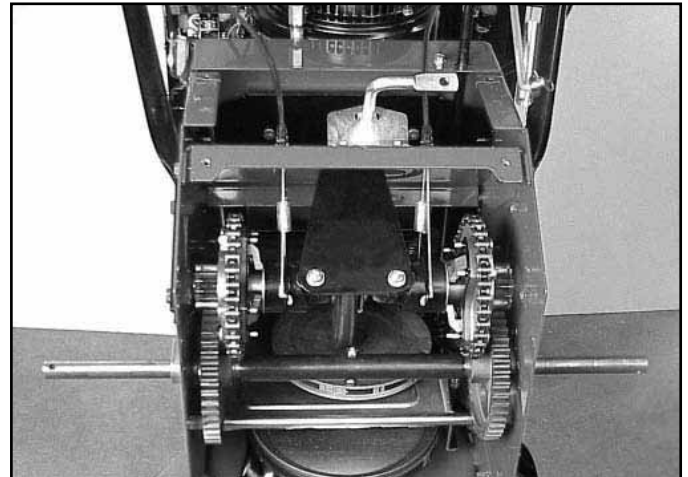

Fig 117
3. Remove bottom plate (Fig. 117).